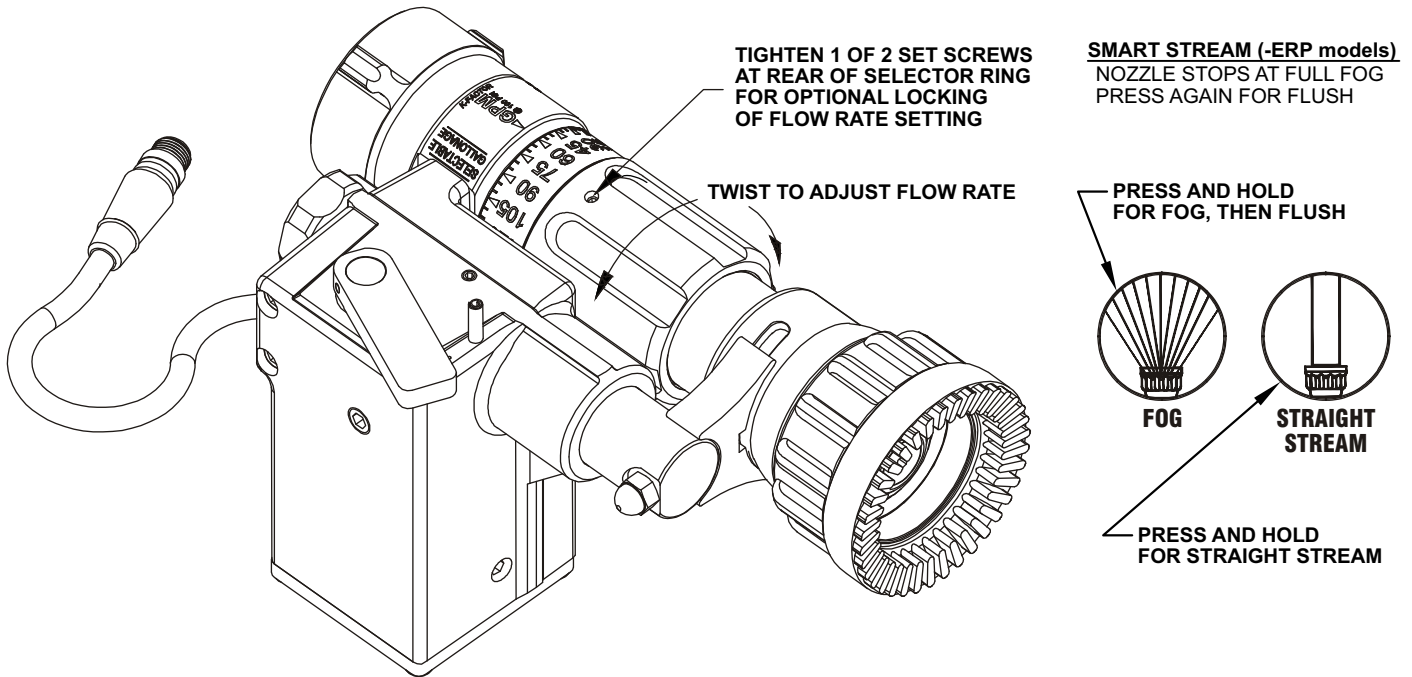

FIGURE 3
The selector ring is marked with various flow settings. To adjust the flow rate, twist the selector ring so that desired setting lines up with the arrow on the base, indicating GPM or L/min, shown in Figure 3. The desired setting may be locked by tightening one of two set screws on the selector ring. To restore adjustability, loosen the set screw. **The nozzle will flow the indicated amount when the pressure at the nozzle is 100 PSI (7 bar). K-factors are provided on the selector ring to calculate flow at other nozzle pressures, using the following formula:**
*When used with a TFT RC Monitor equipped with Smart Stream technology, the Fog button must be pressed and held a second time to reach the Flush position, shown in Figure 3. The purpose of the Smart Stream feature is to prevent unintentional flushing of the nozzle, which will reduce reach and increase the flow rate, potentially depleting the water supply more quickly.